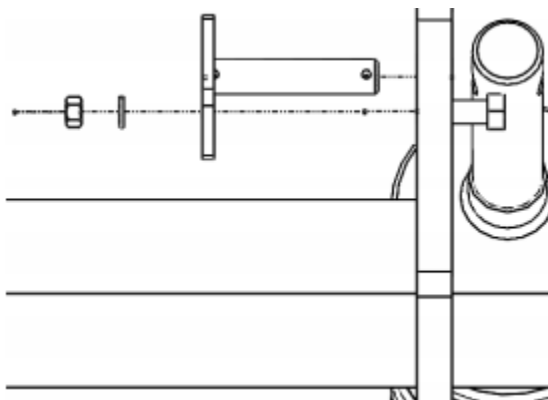

Figure 14
1. Align the upper Hydraulic Cylinder mounting hole with the corresponding holes on the H-Frame as shown in Figure 14 & 15.